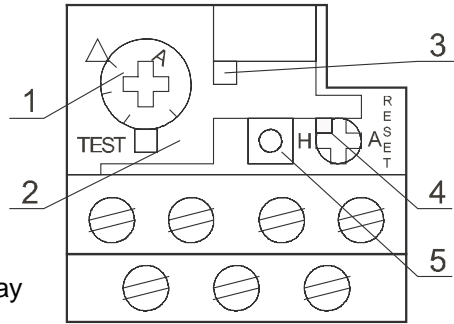

Fig.5.13. Overcurrent relay
4. Open the relay transparent cover (fig.5.13, pos.2).
5. Set up the regulator (1) correct value (with a screwdriver) that it will be facing to the arrow (the value is stated in the electric chart of power circuits and is delivered with the machine).
6. Set up the changing switch (4) to the „H“ position (see the picture).